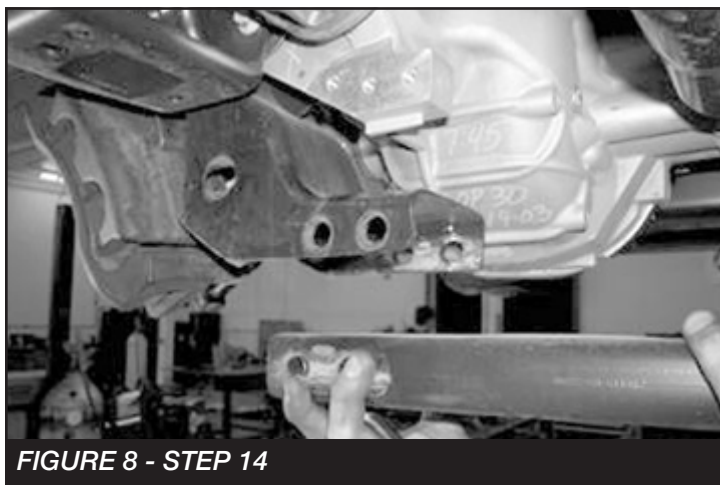

FIGURE 8 - STEP 14
14. Remove the factory rear crossmember from the vehicle and discard the crossmember and hardware. **SEE FIGURE 8**